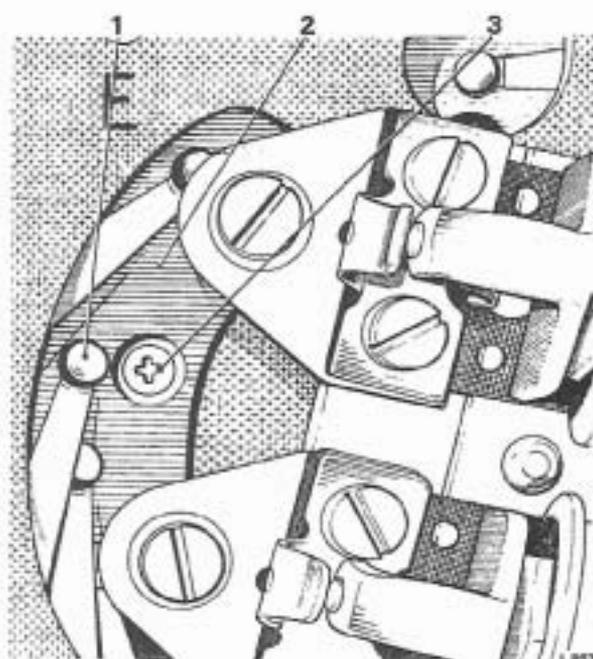

FIG. T152 CHECKING CONTACT POSITION
31. View the contacts through the gaps in the contact plate and ensure that the contacts touch the slip ring centrally, between the outside diameter of the slip ring and the outer perimeter of the rivet heads. There should be a clearance of approximately 0.062 in. (1.6 mm.) on each side (see Fig. T152).